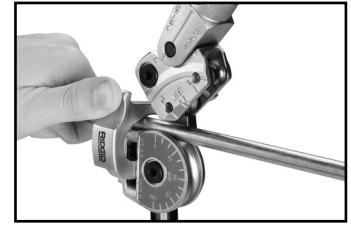

Figure 3
3. Position tubing in Form groove and secure tubing in Form with Latch (Figure 3).